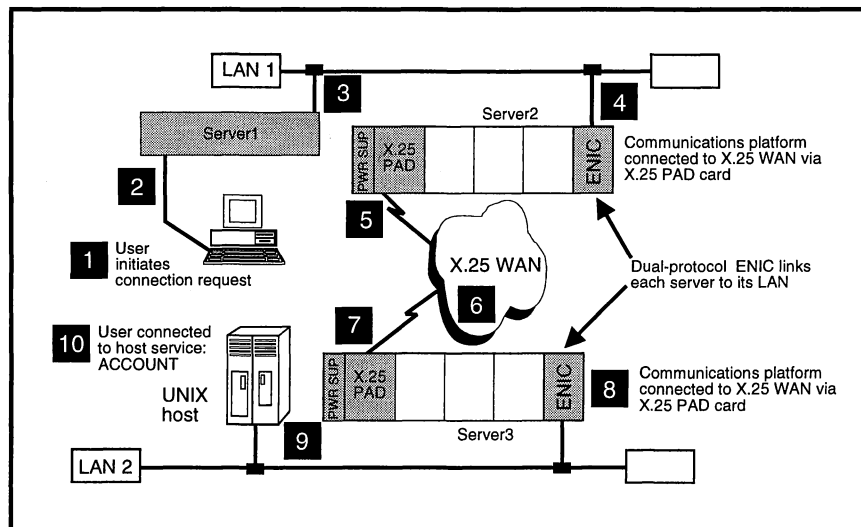

Figure C-3. Connecting for IP-over-X.25 operation
- What makes this connection possible is that *LAN1* is linked to *LAN2* via an X.25 WAN. See figure C-3. *Server2* and *Server3* (each equipped with a dual-protocol ENIC) connect their respective networks to the WAN via X.25 PAD cards featuring IP-over-X.25.
The connections steps are illustrated in figure C-3.